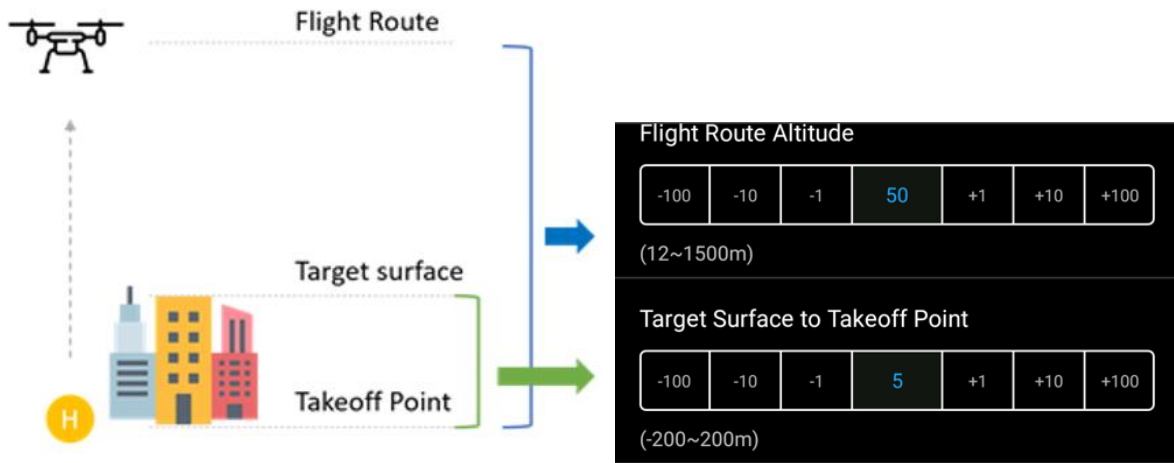

Figure 34: Target Surface to Takeoff Point must be set to ensure overlap calculations are applied to top of canopies. (Image source: DJI).
- *Vegetation height and terrain complexity, as well as difference in terrain between plot and the drone takeoff area must be considered when setting a suitable target surface (Figure 34). This is essential to ensure that the overlap calculations are applied appropriately. When the terrain to map and the takeoff point differ in elevation, set this to the distance from the takeoff point to the target surface. **Note:** Flight settings in tall forests (> 30 m) and sites with steep terrain are yet to be tested.*